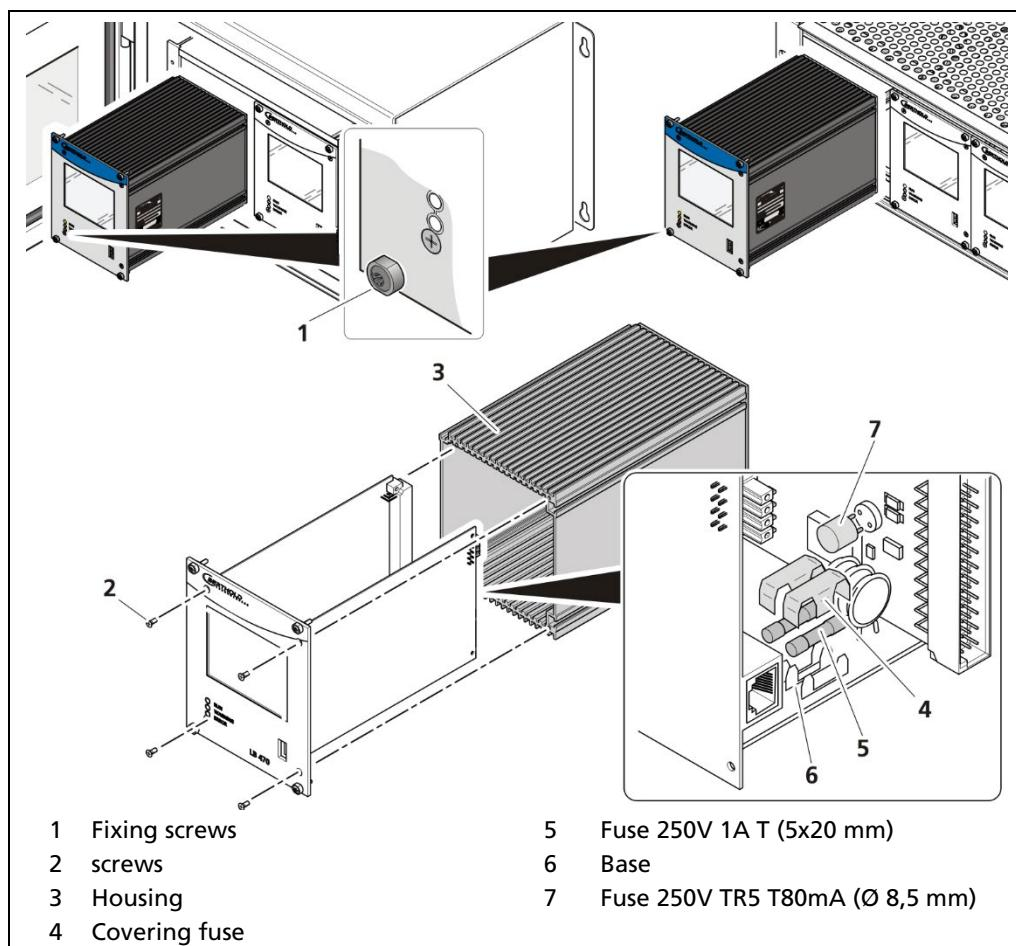

Fig. 143 Replacing fuses master EVU
2. Loosen the four fixing screws (Fig. 143, item 1) and remove the EVU from the wall housing or subrack.
3. Loosen the four sunken screws on the front side of the EVU (Fig. 143, item 2).
4. Pull out the housing (Fig. 143, item 3) carefully.
5. Remove the protective covering of the fuse (Fig. 143, item 4)
6. Remove the fuse (Fig. 143, item 5, item 7).
9. Screw the front panel to the housing with the four screws (Fig. 143, item 2).
11. Tighten all fixing screws (Fig. 143, item 1).